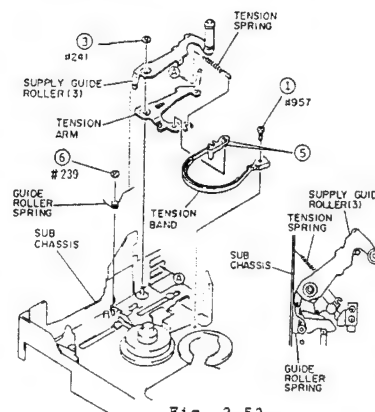

Fig. 2-52
- 1) Remove one (1) screw holding the tension band. (See Fig. 2-52)
- 3) Remove one (1) washer holding the tension arm and supply guide roller (3).
- 4) Pull out the tension arm, supply guide roller (3) and tension band from the sub chassis.
- 5) Release two (2) tabs and remove the tension band from the tension arm.
- 6) Remove one (1) washer holding the guide roller spring.